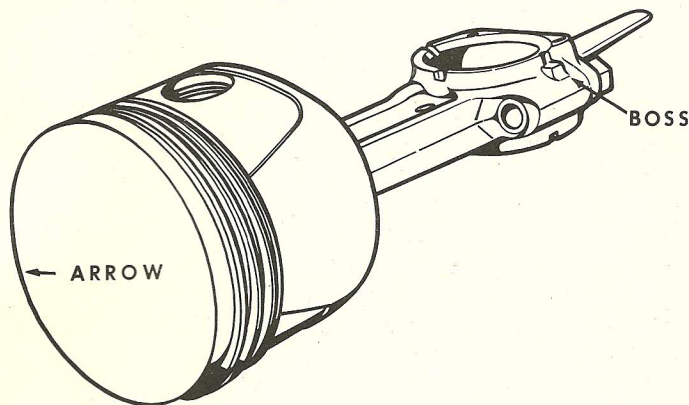

Figure M-30
1. Install the piston pin into the piston and rod. Install retainer rings in the grooves in the piston. **IMPORTANT** Arrow on top of the piston must be opposite the boss on the connecting rod and cap, Figure M-30. Using a rod alignment fixture check the rod to piston alignment.